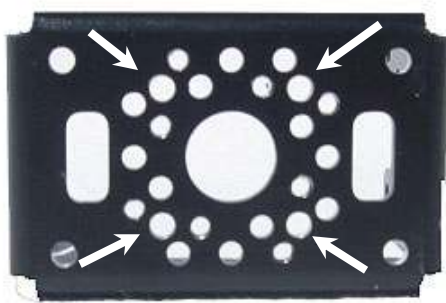
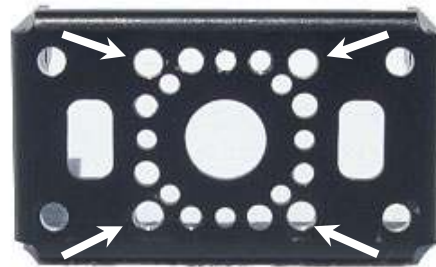

Figure 24
Figure 25
7. Using (8) #4 – .31” countersink screws and lock nuts, install the girder assembly to the servo dual servo bracket assembly as shown in figure 24. The holes on the dual axis adapter will line up with the holes on the brackets as illustrated in figure 25.